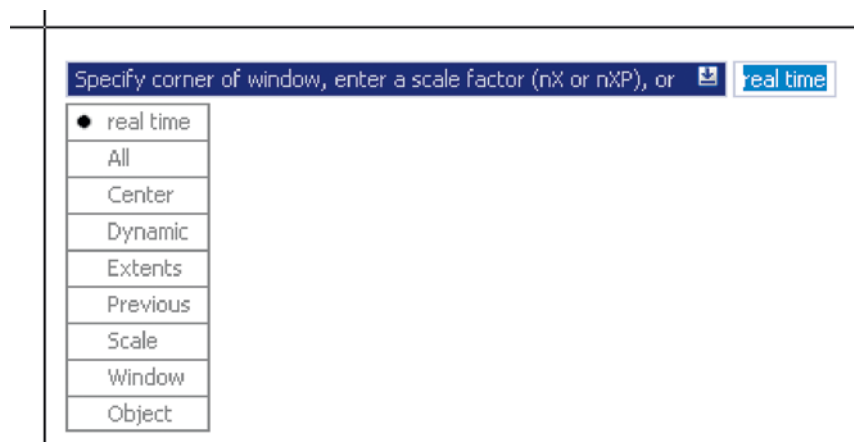

Fig. 3.35 Dynamic Input – second example – Zoom – the pop-up menu appearing with a *right-click* and pressing the **down** keyboard button
2. *Right-click* and press the **down** button of the keyboard. The pop-up list Fig. 3.35 appears from which a **Zoom** prompt can be selected.